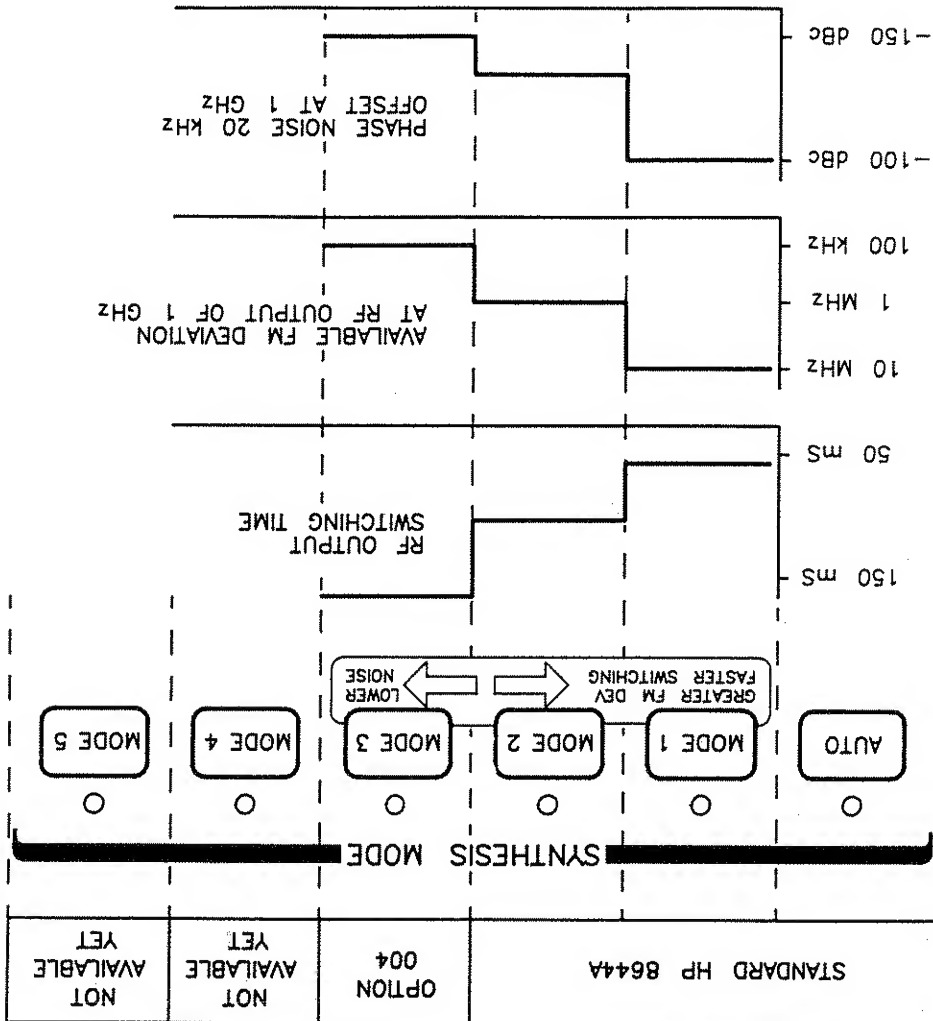

Figure 2-2. Synthesis Modes for RF Output of 1 GHz.
In other applications, you may want the RF output to switch faster and have more FM deviation. In this case, press the Mode key of your choice to take the HP 8644A out of the Auto Select mode. There are three basic factors to consider when you choose a "Synthesis Mode"—they are, (1) FM deviation, (2) switching speed, and (3) phase noise. A typical comparison of these three factors for an RF output of 1 GHz is shown in figure 2-2: